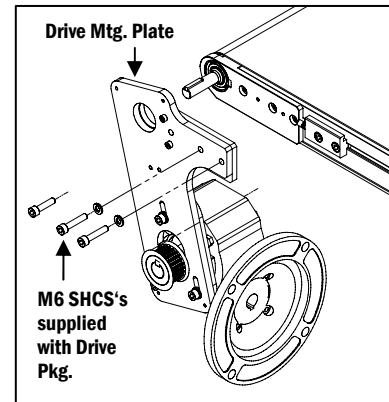

Figure 3
③ Install the Drive Mounting Package
- b. Install and tighten the three M6 Socket Head Screws included with the drive mounting package into the holes of the Drive Mounting Plate (**Figure 3**).